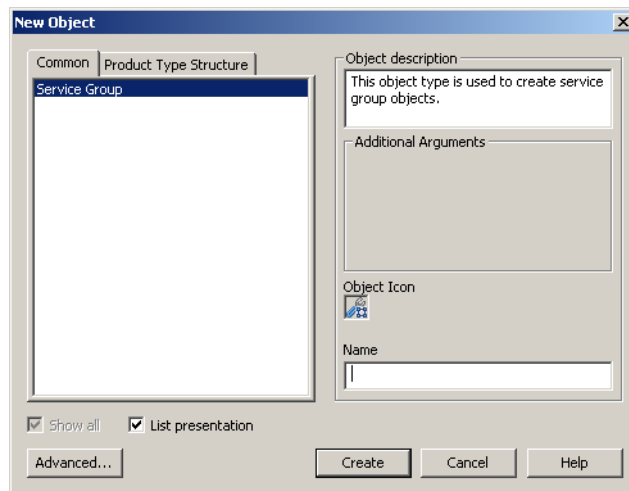

Figure 295. New Service Group - SG_PT
3. Create a Service Group under the Property Transfer service, see Figure 295 below.